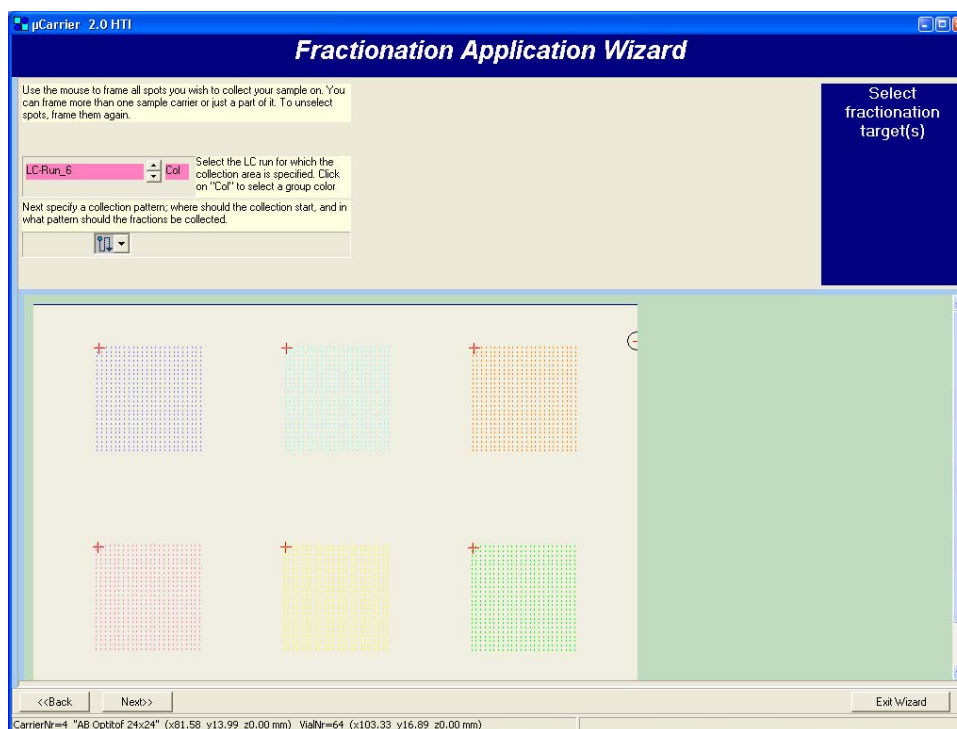

FIGURE 2-41 The Fractionation Application Wizard – Selecting the Spots of Multiple Groups
- j) To specify the spots that should be used during the LC run, select a group from the list and frame the spots while keeping the left mouse pressed. Only if 'Multiple runs, collect each run on a new group' option was selected, more than one group is available. Each group represents then one LC run. All groups are typically of the same size and one sample carrier is used for one LC run (FIGURE 2-41).